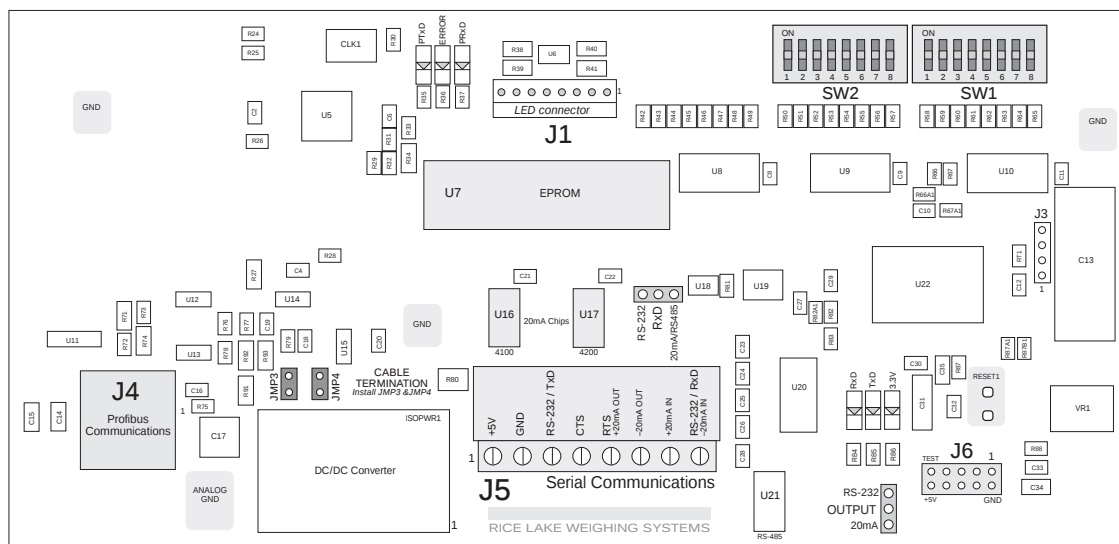
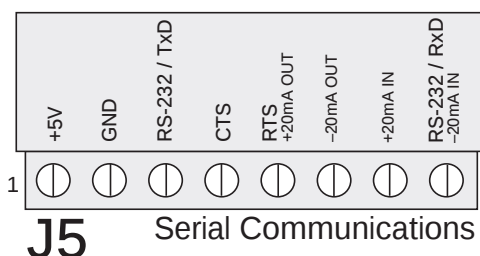

Figure 2-2. Profibus Indicator Interface Logic Board Layout
Figure 2-4. Serial Communications Connections
Figure 2-2 shows the layout of the Profibus Indicator Interface logic board. The following sections describe DIP switch configuration and cable connections to the PLC and indicator.
Two jumpers, labeled *RxD* and *OUTPUT*, determine whether the Profibus Indicator Interface uses RS-232 or 20 mA current loop for serial communications with the indicator. Leave the jumpers in the position shown in Figure 2-4 for RS-232 communications; move both jumpers to the 20mA position if using the 20 mA current loop option. See Figure 2-2 on page 2 for board location of the jumpers.
Serial communications connections to the indicator are made at connector J5 on the Profibus board (see Figure 2-2 on page 2 for board location of J5). Figure 2-4 shows the J5 connector layout for the Profibus Indicator Interface. Table 2-1 shows the serial communications connections between the Profibus Indicator Interface and the IQ plus 800/810 indicators; Table 2-2 shows the serial communications connections between the Profibus Indicator Interface and the IQ plus 310A indicators.
Connections to the Profibus network are made at connector J4 on the Profibus board (see Figure 2-2 on page 2 for board location of J4). Table 2-3 shows the connections from J4 connector on the Profibus board to the DB-9 Profibus connector.
If the Profibus Indicator Interface is the last device on the network bus, install jumpers JMP3 and JMP4 on the Profibus board (see Figure 2-2 on page 2 for jumper locations).
3. Install 20 mA chips in sockets U16 and U17 on Profibus board (see Figure 2-2 on page 2).